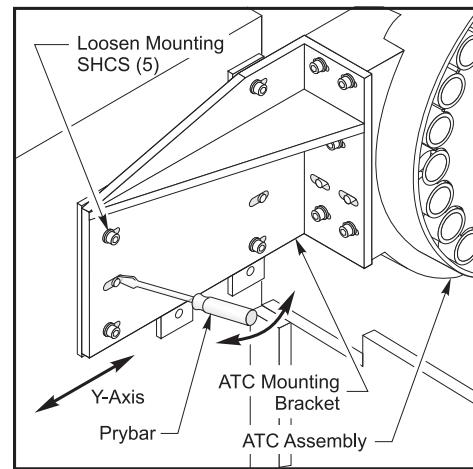

Figure 3-72 ATC Assembly Y-axis alignment.
9. If necessary, loosen the five ATC SHCS (Refer to Figure 3-72). Insert a small pry bar between the locating pins and the mounting bracket. Adjust the ATC along the mounting slots and align the tool and spindle's center.